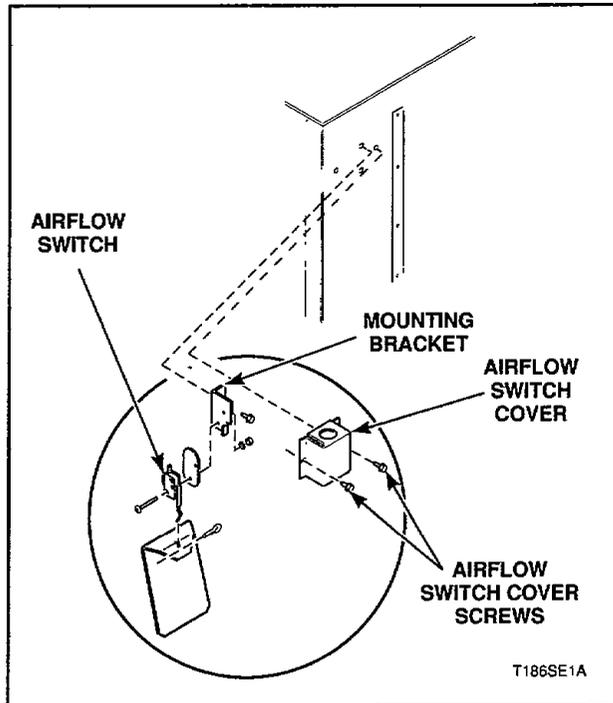

Figure 18
24. AIRFLOW SWITCH (Figure 18)